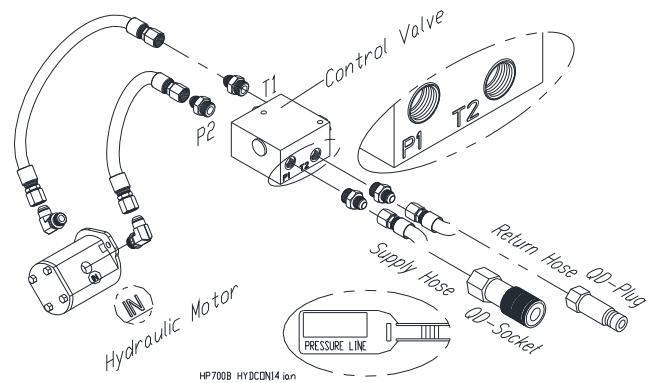

Fig. 12-4 Motor, Valve & Hose Connections Identified
There are four (4) port connections located on the valve. Each port is stamped for identification. Refer to Fig. 12-4. The valve and motor ports are identified. The supply hose is also tagged [PRESSURE].